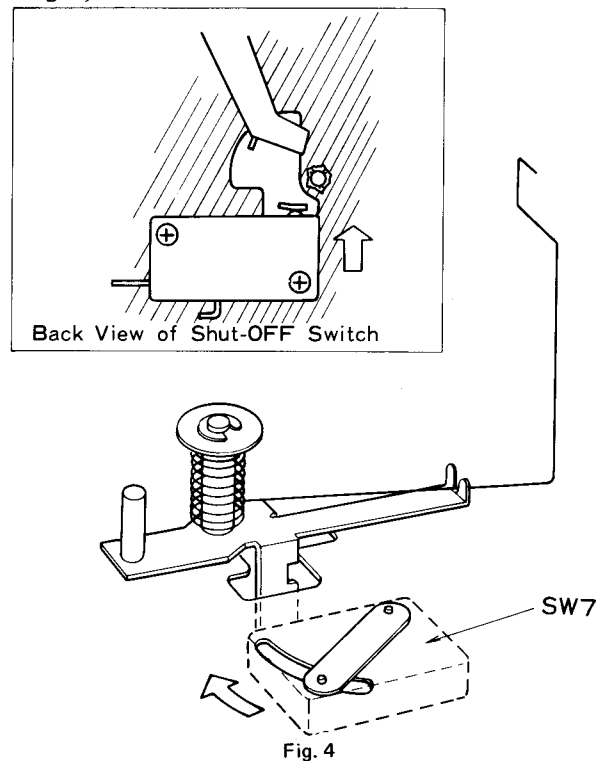

Fig. 4
3. POSITION ADJUSTMENT OF SHUT-OFF SWITCH (Refer to Fig. 4)
- (1) Supply power and shift the function selector knob (005) in playback position.
- (2) Confirm that power supply is cut off by pushing the shut-off switch lever (104).
- (3) Shift the function selector knob (005) in stop position.
- (4) In case power supply shutting off is too early, move the shut-off switch (SW7) in the direction as shown in Fig. 4.
- (5) In case power supply shutting off is delayed, move the shut-off switch (SW7) in the opposite direction to the arrow in Fig. 4.